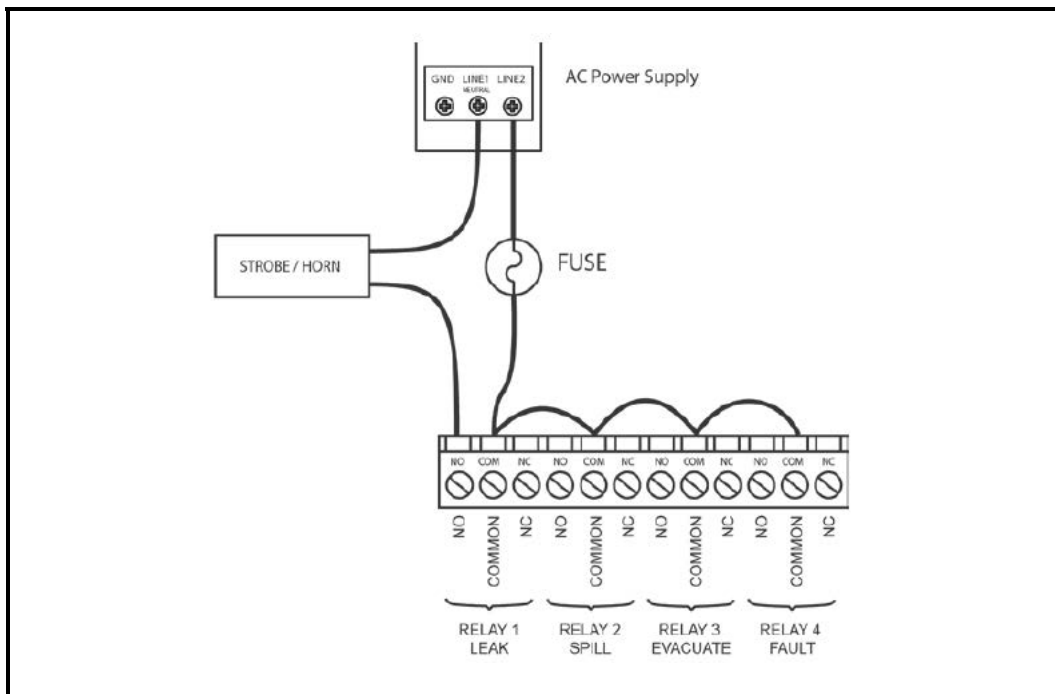
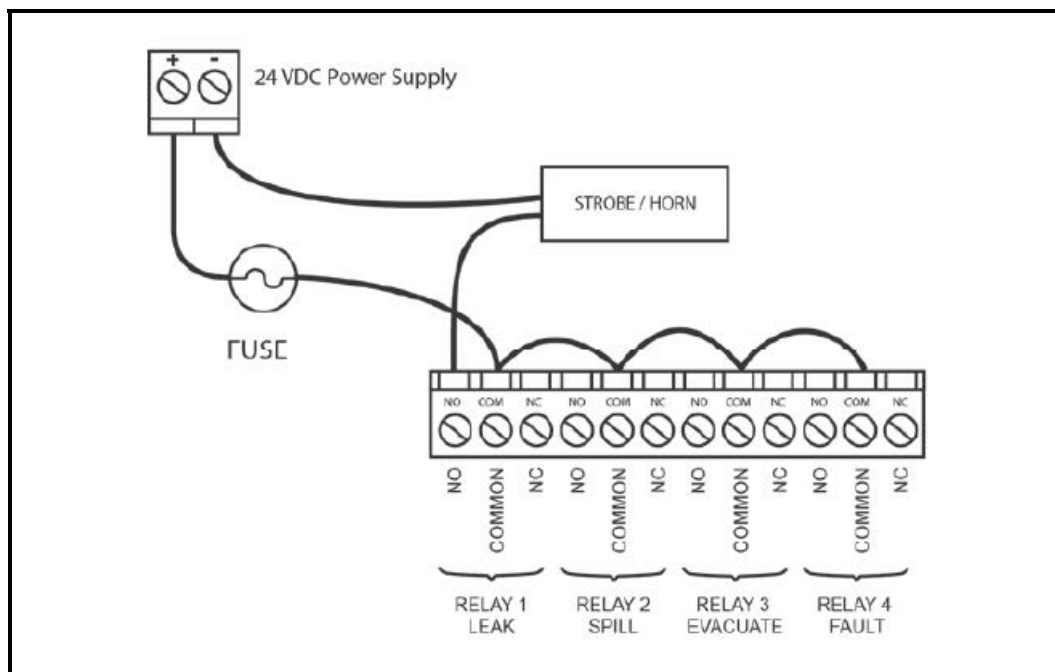

Figure 5-2 - Typical AC External Alarm Relay 1 Wiring
Figure 5-3 - Typical DC External Alarm Relay 1 Wiring
2. Power for the alarm devices connected to the relay contacts may be supplied by an external 24 VDC power source or the monitor's AC input terminals. Wiring diagram in **Figure 5-2** shows the power to this device is being tapped off the monitor's AC input. Wiring diagram in **Figure 5-3** power is supplied from an external power source.